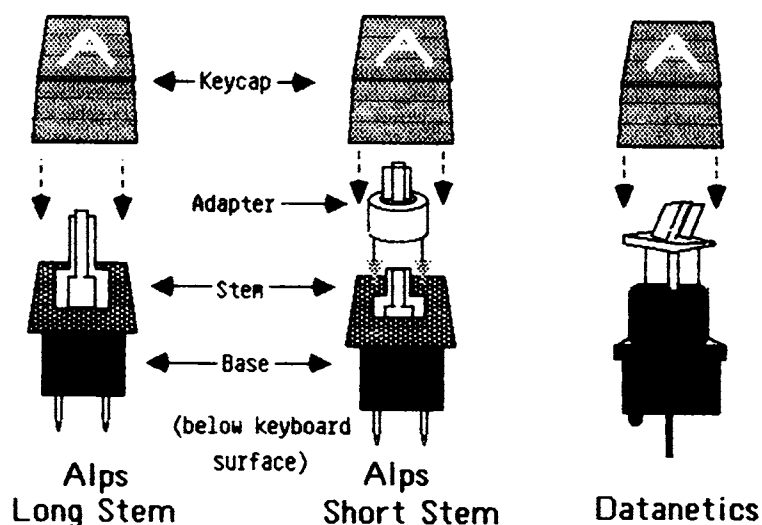

FIGURE 1
2. Before identifying the keyswitches, here are some important distinguishing features you should know: a) Only Alps short stem keyswitches have adapters, small plastic pieces that fit on the stem to make it longer. b) Alps long stem keyswitches are capped directly with the keycap. c) Datanetics keyswitches have a square collar on the middle of the stem. Refer to Figure 1 below for the differences between the Apple II keyswitches.
4. If you cannot identify the keyswitch using Figures 1 and 2, then remove the keyboard and look for the name "Datenetics" on the PCB.*
5. Check to see if you find an adapter on the keyswitch. If there is an adapter, then the keyboard is an Alps short stem. If there is not an adapter, then the keyboard is an Alps long stem. Verify this by checking Figure 1, page A.1.